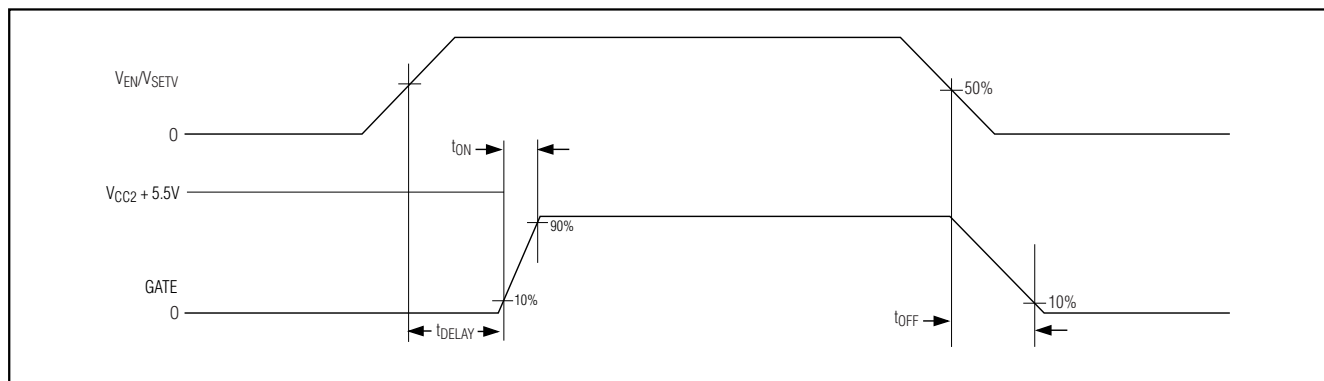

Figure 3. Timing Diagram
The MAX6819 offers a logic-compatible enable input (EN) that allows digital devices to control sequencing. When the TTL/CMOS-compatible EN input is logic low, the GATE output is low. When the EN input is logic high (and SETV is above the monitor threshold), the GATE output is enabled after an internally fixed 200ms delay. For a logic controlled sequencer when voltage monitoring is not desired, connect SETV to  $V_{\text{CC1}}$  or  $V_{\text{CC2}} > 0.62\text{V}$  (Figure 3).